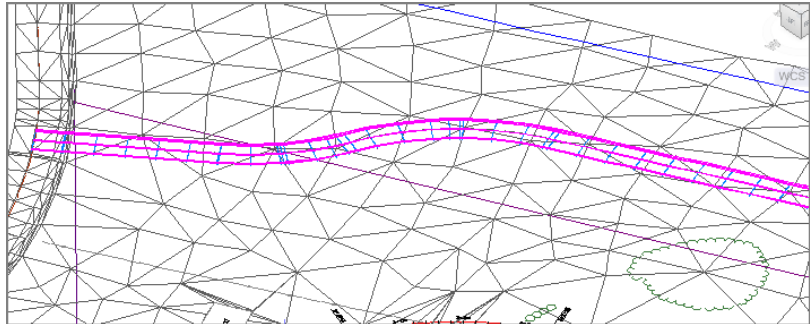

FIGURE 9.7 A portion of the newly created corridor shown in a 3D perspective
4. Zoom in to the bottom-right viewport, and notice the corridor that has been created there (see Figure 9.7).